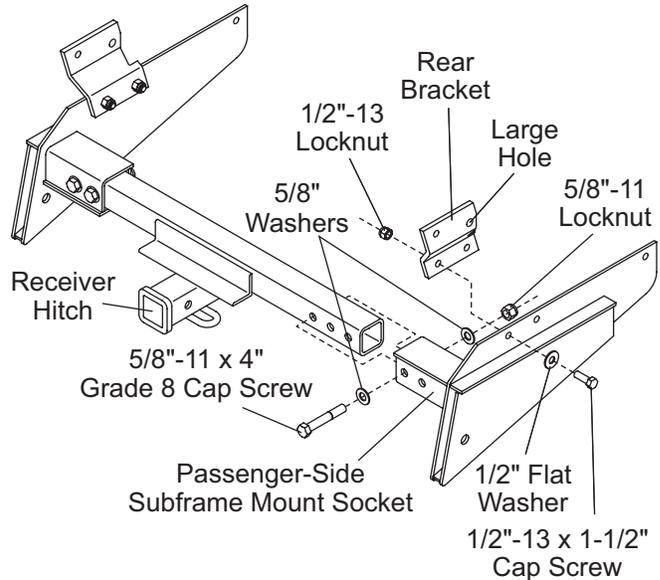

Figure 2
1. Insert receiver hitch into passenger-side subframe mount socket to furthest position (narrow configuration) and align holes. (See Figure 2.)